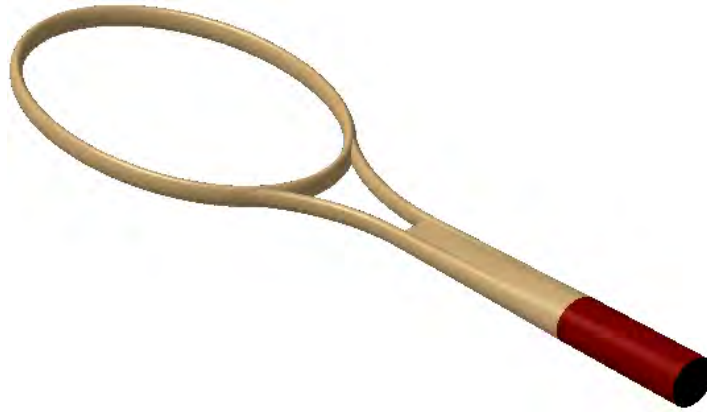

Figure 9-71 The final model
- g. Create the fill surfaces, refer to Figure 9-71.
4. Similarly, create another fill surface using **Sketch.5** to cover the open side of the **Multi-section 1 Surface**. You need to split the fill surface using the sweep and symmetry surface. You can apply different colors to different surfaces for better visualization by right-clicking on them and choosing the properties option from the contextual menu. The final model will be, as shown in Figure 9-71.